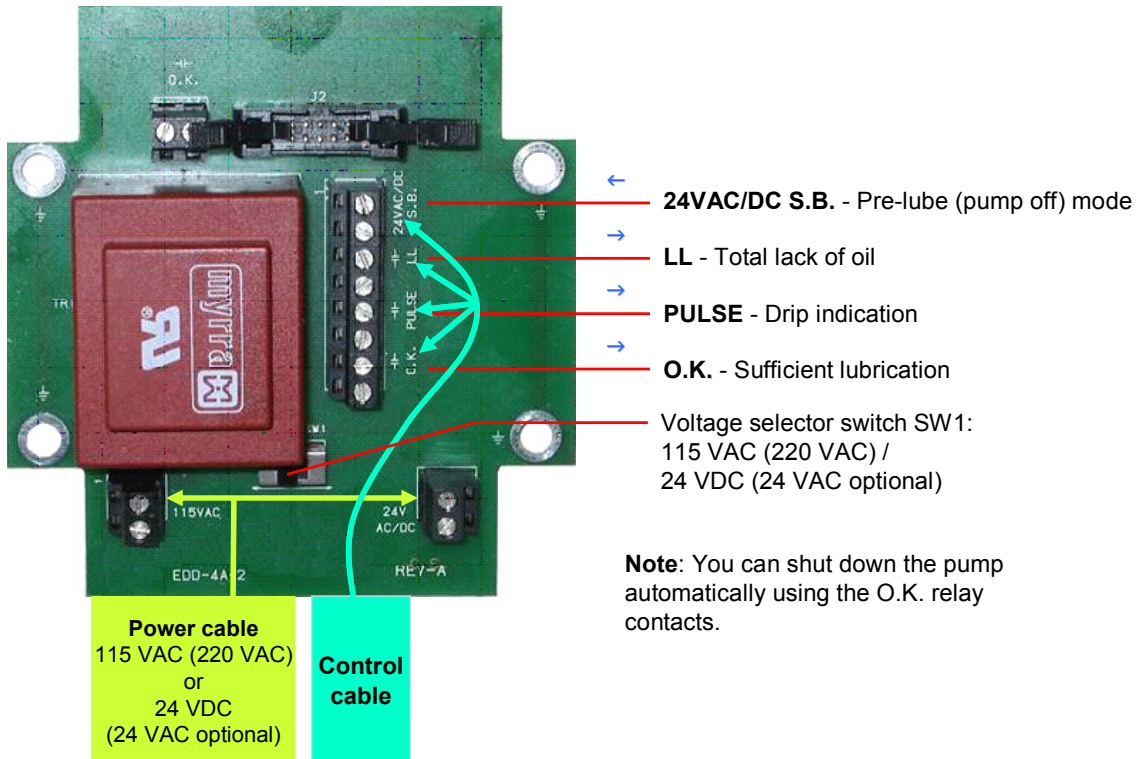

Figure 5: Connection box – electrical terminals: 115 VAC unit shown
Wire the connection box according to Figure 5. Connections are described in detail in Table 1 on page 11.
1. Set the power switch SW1 located just below the transformer, for line power (115 VAC or 220 VAC) or 24 V DC/AC according to your requirements. See Figure 5.
To select the Pre-lube mode, 24 V DC/AC must be applied to the S.B. terminals in the connection box (Figure 5). In this mode, the drip rate is automatically set to 2 dpm.